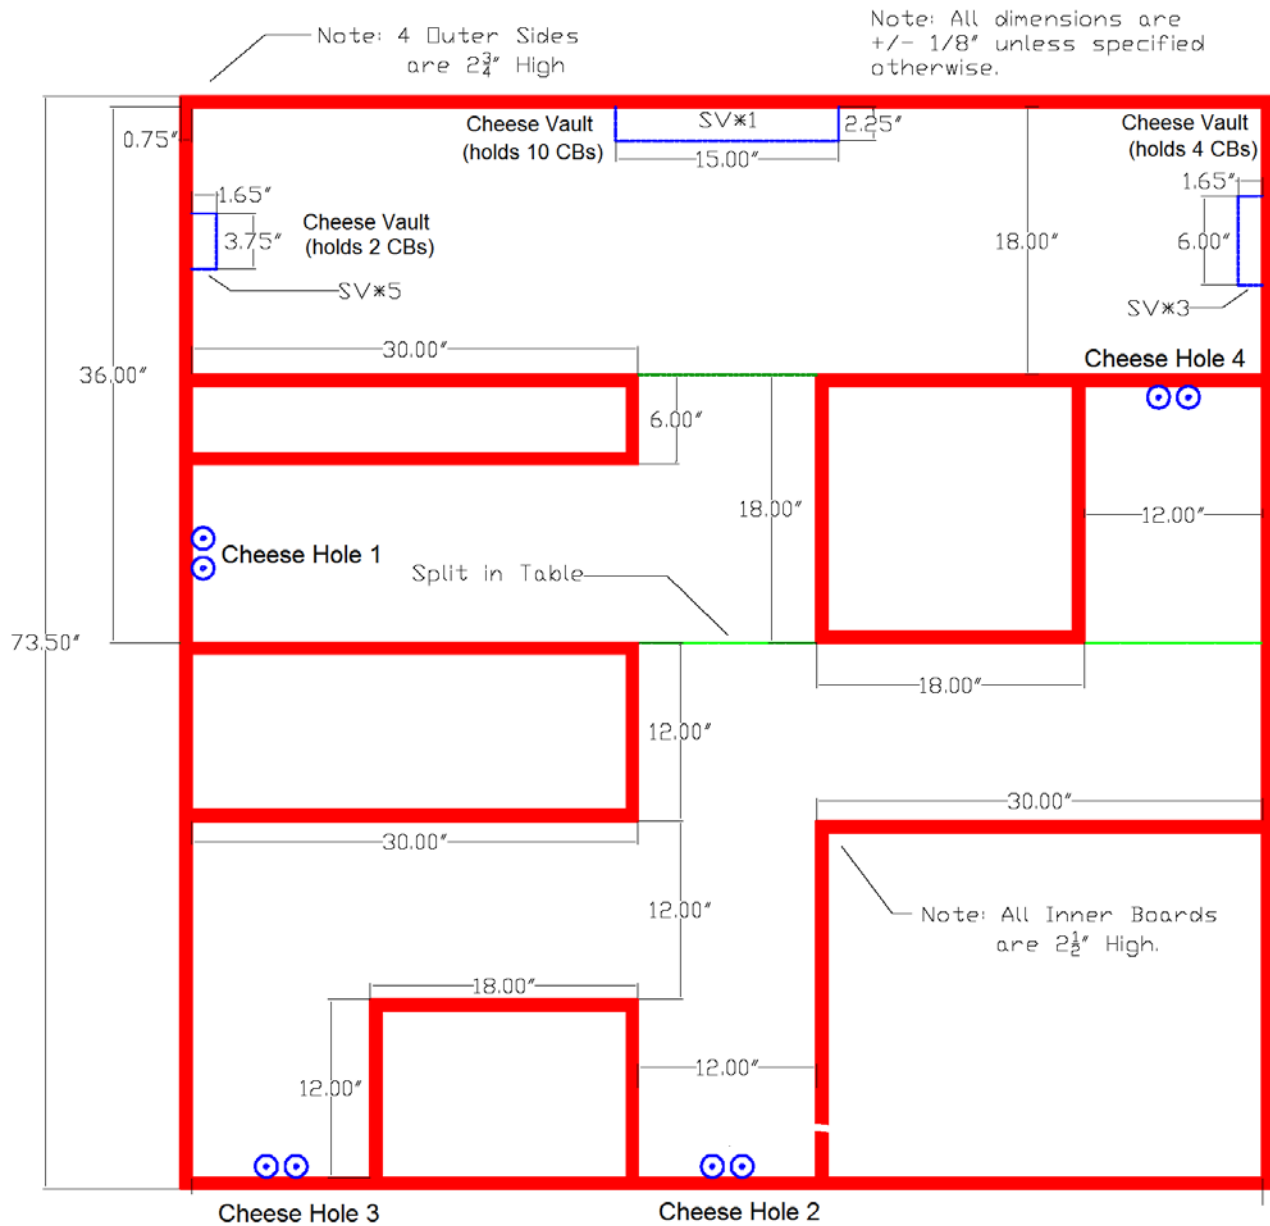

Figure 1: Competition Surface with Dimensions
1. The *system* shall be designed to perform on the competition surface shown in Figures 1 and 2.
3. The *system* shall be constructed only from LEGO® pieces included in the provided kit as listed in the kit inventory. The team may also request no more than one (1) light sensor from the ECE parts room if they have a need. In order to organize the robot cables, the team may also request two (2) meters of orange kite string from the ECE parts room or use their own tie wraps. Tie wraps may only be used to organized cables and for no other use.
8. The system shall collect CBs from any of the four (4) CHs within the maze. The system shall deliver CBs to any of three (3) CVs.
- The competition will be held on a table that is 6' x 6'. The competition surface will be flat black and is shown in Figures 1 and 2. There will also be a white line on the surface for line following as shown in Figure 2. The walls of the competition table will be wood color. Figures 1 and 2 include the dimensions of the table and the locations of the CBs, CHs and CVs.
- The CH consists of 2 dimples that are $\frac{3}{4}$ " deep in the table to keep the balls from rolling. Each CH will contain two (2) CBs located in dimples on the playing surface that touch the back wall of the CH. There will be a 2" center to center separation between the CB with a $\frac{1}{2}$ " gap between them. The ping pong balls are approximately 1 $\frac{1}{2}$ " in diameter.